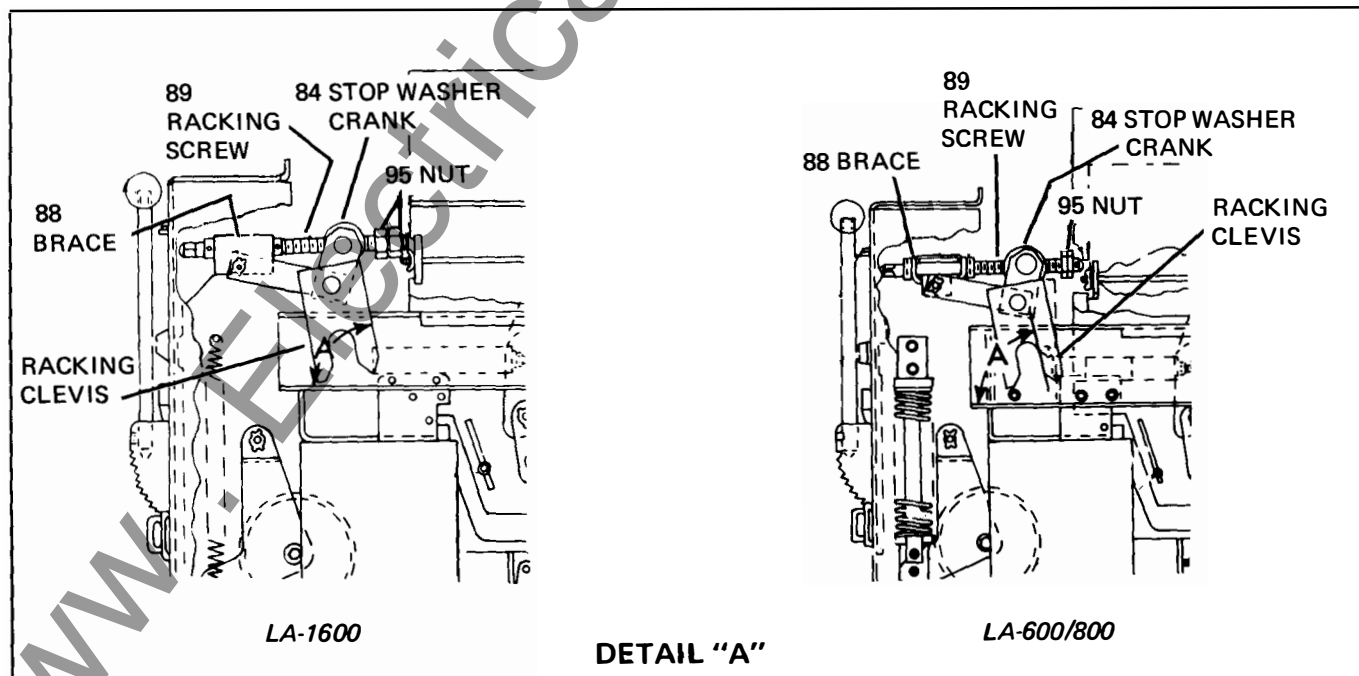

Figure 3. Detail of Typical Racking Mechanism and Drawout Interlock
Refer to Figures 3 and 3A, pages 9 and 10. With the circuit breaker resting on the cubicle rail, the following sequence should be used to rack the circuit breaker into the cubicle.
5. Before attempting to operate the circuit breaker, the position of the device should be checked with reference to the marking in the cubicle, to be certain that it is fully connected. Two stop nuts are provided on the racking screw to set the connected position. These are adjusted by setting the angle of the racking clevis, as shown in detail (A), Figure 3, and by tightening the nuts against the stop washer (84), the two nuts (95), should be then locked against each other.
Refer to Figure 3, pages 11-14, of Parts Ordering Guide 18X5215-02 for legend.